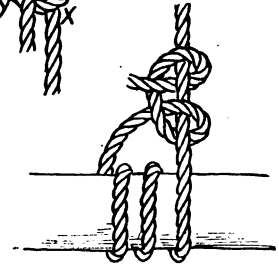

FIG. 105
**Rolling Hitch.** A rolling hitch is made by wrapping the rope three times around the object to which it is to be fastened and then making two half hitches around the standing part. The hitch may then be hauled taut. It is very easily and quickly made and is secure (fig. 105).